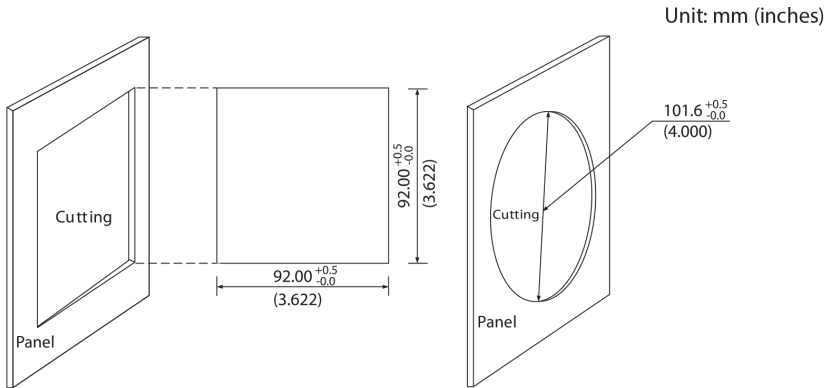

Figure 2-2 Panel Cutout
1. Cut a square hole or round hole on the panel of the switch gear. The cutting size is show in fig 2-2.